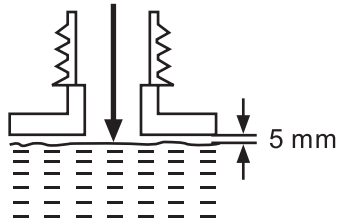

Fig.8
6. Unscrew and remove the fuel tank cap (12).
7. Fill correctly mixed fuel/oil into the tank using a fuel funnel fitted with a filter to avoid debris entering the tank. Do not overfill. Leave a minimum 5 mm of space between the top of the fuel and the inside edge of the tank (11) to allow for expansion (Fig. 8).